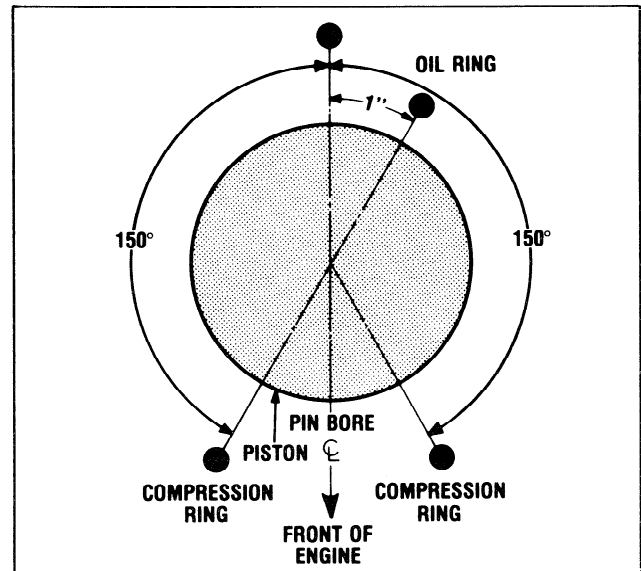
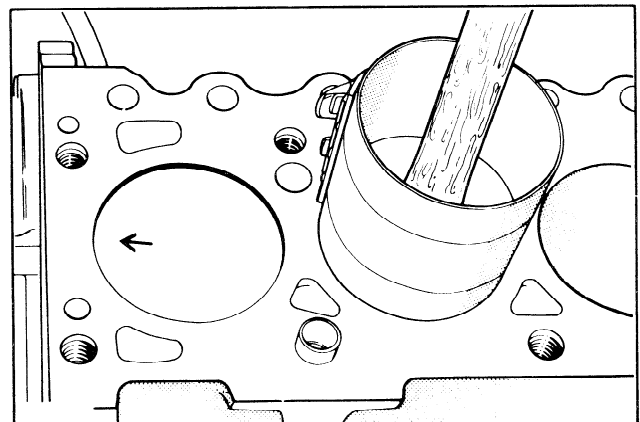

FIG. 43 Piston Ring Cap Spacing
FIG. 44 Piston Installation
4. Make sure the ring gaps are properly spaced around the circumference of the piston (Figure 43). Oil the rings, then install a piston ring compressor on the piston. Make sure that the arrow in the dome of piston is toward the front, then push the piston into its bore with the handle end of a hammer until it is slightly below the top of the cylinder (Figure 44). Be sure to guide the connecting rods to avoid damaging the crankshaft journals.
18. Install the rings on the piston starting with the oil ring, then the second compression ring and the top compression ring. Position the gaps as shown in Figure 43.